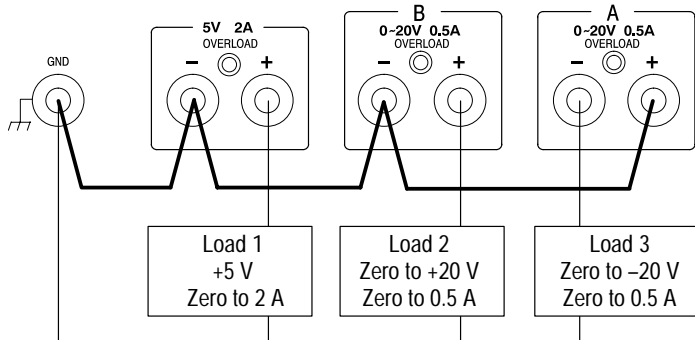

Figure 5: Independent Ground-Referenced Applications (B)
Figure 5 shows the power supply connected to produce separate outputs of +5 V, 0 V to +20 V from the B supply, and 0 V to -20 V from the A supply. In this configuration the red terminal of output A is the relative negative terminal because it is connected directly to GND. To set up this configuration, proceed as follows:
1. Turn the CPS250 **POWER** to **OFF**. Connect the outputs as shown in Figure 5.